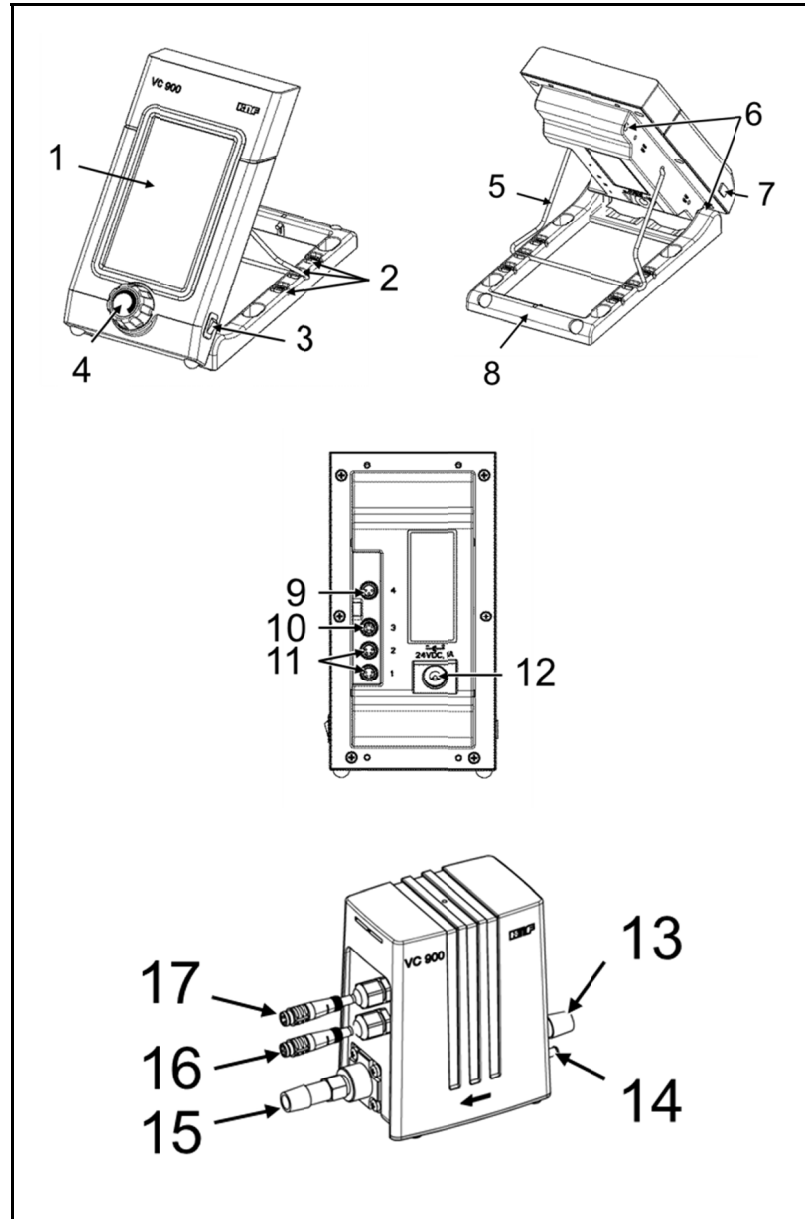

Fig. 1: Vacuum Controller VC 900
Ventilating the VC 900	When ventilating the VC 900 with air or inert gas, be sure to prevent formation of reactive or explosive media. The maximum permissible operating pressure at the ventilation connection (Fig. 1/14, p. 12) is 0.1 bar g.
You can operate the vacuum controller either via the touch display and the rotary/push knob (Fig. 1/1 and 4, p. 12) or via a PC. Use the mini USB interface for PC operation (7).
The angle of the vacuum controller can be adjusted by the positions of the foot and the wire support (mounting options, see Fig. 1/2).
1. Connect the vacuum chamber and the vacuum source to the hose connectors of the control unit (Fig. 1/13 and 15, p. 12).
Connect the inert gas feed to the ventilation connection (Fig. 1/14, p. 12). Observe the corresponding safety precautions in Chapter 3.
3. Connect the cable for the pressure sensor (Fig. 1/17, p. 12) to the 3-pole socket on the back of the vacuum controller (Fig. 1/9, p. 12).
4. Connect the cable for the valves (Fig. 1/16, p. 12) to one of the two 4-pole sockets on the back of the vacuum controller (Fig. 1/11, p. 12).
5. Connect the power supply to the vacuum controller (Fig. 1/12, p. 12) and plug it into a properly installed safety socket.
▪ All hoses attached properly ▪ Specifications of the power supply correspond with the data on the vacuum controller's type plate ▪ Vacuum controller at ambient temperature ▪ If the vacuum controller is ventilated through the inert gas connection (Fig. 1/14, p. 12) no reactive, explosive, or otherwise dangerous mixtures can form (use inert gas if necessary)
➔ Switch on the vacuum controller at its I/O switch (see Fig. 1/3, page 12).
➔ Switch off the vacuum controller at its I/O switch (see Fig. 1/3, page 12).
- a rotary/push knob (Fig. 1/4) and
- a touchscreen (Fig. 1/1).